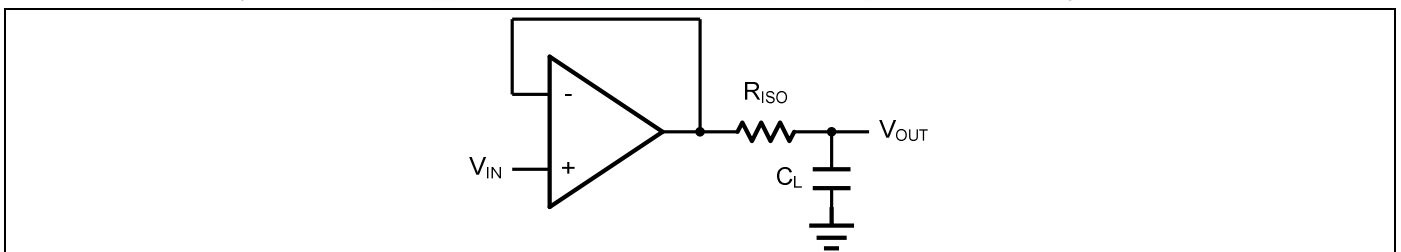
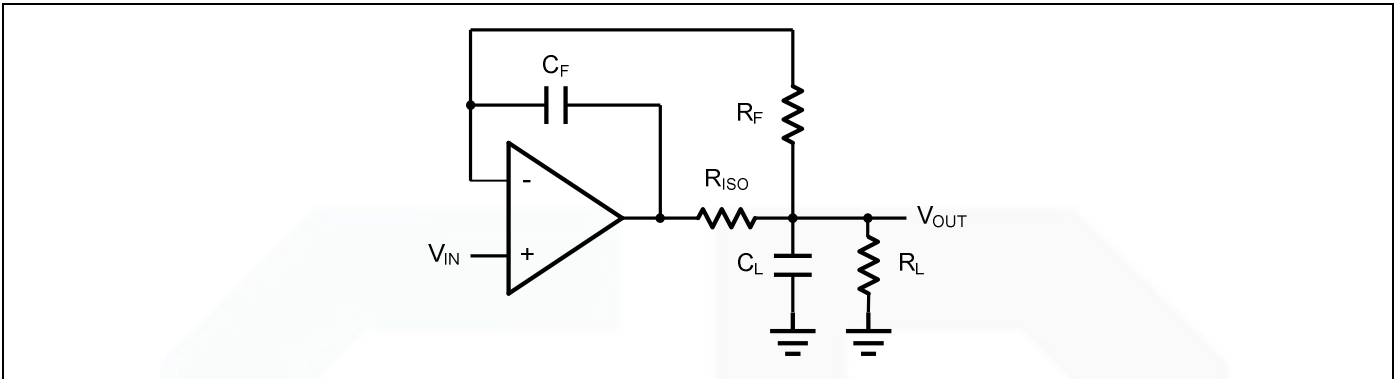

Figure 2. Indirectly Driving a Capacitive Load Using Isolation Resistor
Figure 3. Indirectly Driving a Capacitive Load with DC Accuracy
The GS814X family is optimized for bandwidth and speed, not for driving capacitive loads. Output capacitance will create a pole in the amplifier's feedback path, leading to excessive peaking and potential oscillation. If dealing with load capacitance is a requirement of the application, the two strategies to consider are (1) using a small resistor in series with the amplifier's output and the load capacitance and (2) reducing the bandwidth of the amplifier's feedback loop by increasing the overall noise gain. Figure 2. shows a unity gain follower using the series resistor strategy. The resistor isolates the output from the capacitance and, more importantly, creates a zero in the feedback path that compensates for the pole created by the output capacitance.
The circuit in Figure 3 is an improvement to the one in Figure 2. R_F provides the DC accuracy by feed-forward the V_{IN} to R_L . C_F and R_{ISO} serve to counteract the loss of phase margin by feeding the high frequency component of the output signal back to the amplifier's inverting input, thereby preserving the phase margin in the overall feedback loop. Capacitive drive can be increased by increasing the value of C_F . This in turn will slow down the pulse response.